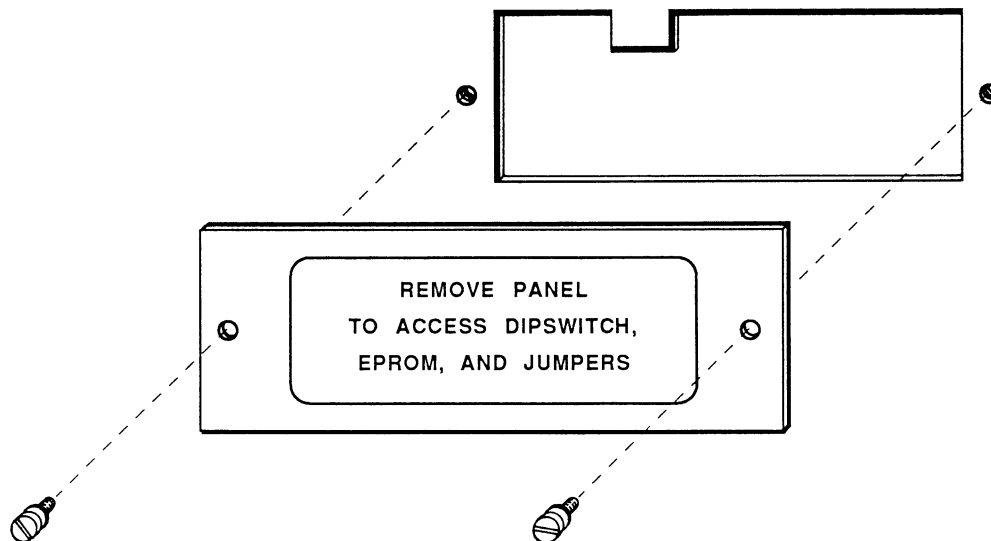

Figure 2-1. Removing the Cover Plate
1. Remove the cover plate from the back panel of the unit by loosening the two screws as shown in Figure 2-1 below. Save the screws and washers.